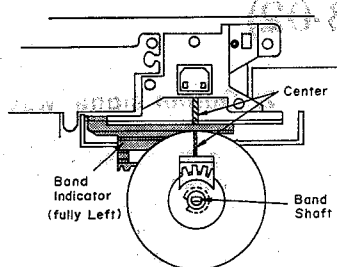

Fig. 14
- *4. To reassemble the band shaft, set band switch indicator to full left and band shaft to center as shown in fig. 14.